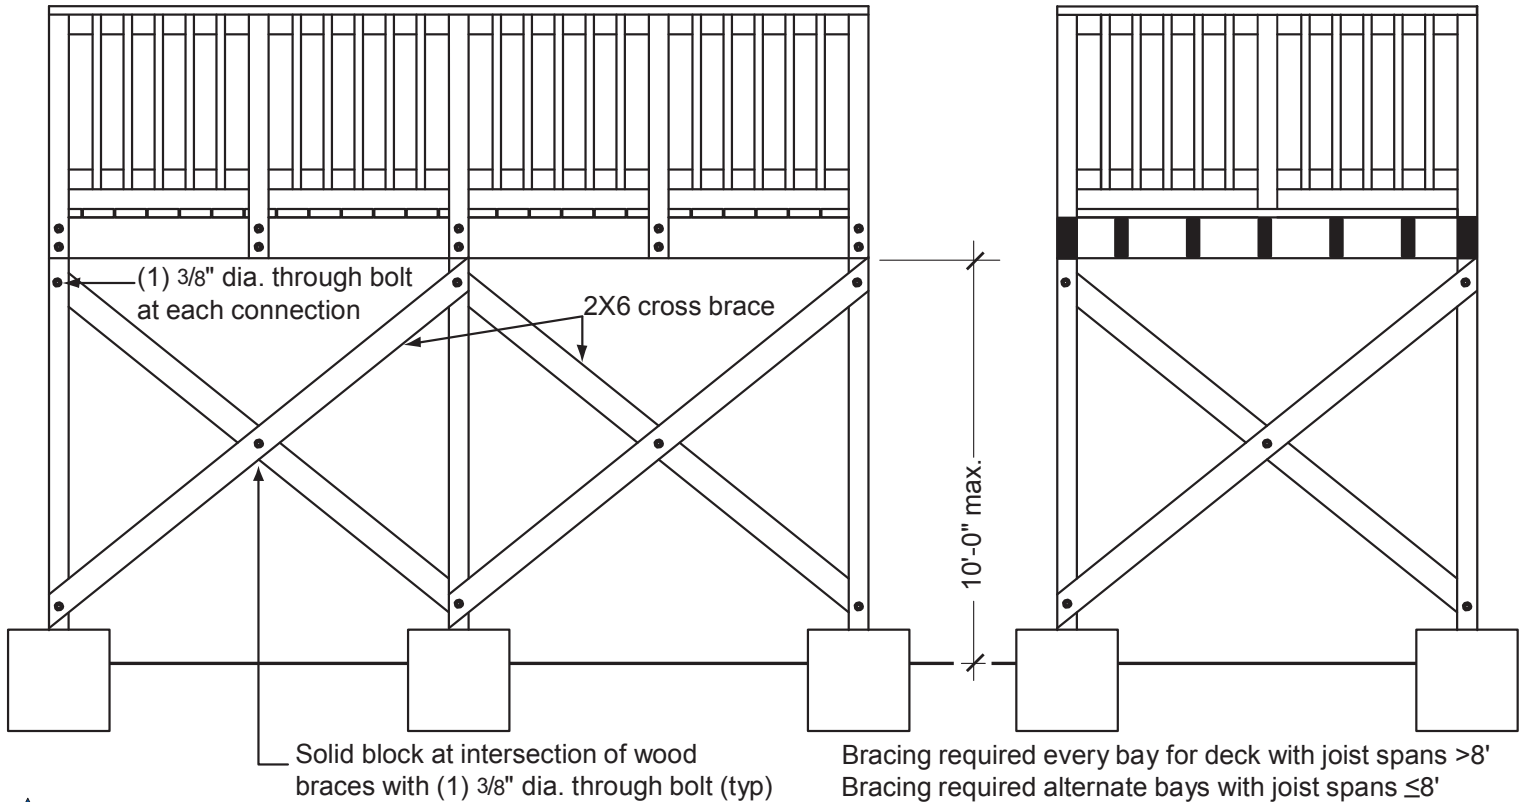

Fig. 15: Diagonal bracing
Decks more than 30 inches above grade must resist lateral forces (wind and earthquake) with diagonal cross bracing as shown in Figure 15. Bracing shall be located between posts parallel to beams and bolted with a 3/8" diameter through-bolt at each end to the posts as shown. Diagonal bracing shall also be located perpendicular to beams. If the deck is free-standing, diagonal bracing must be provided on all the posts and in both directions. Bracing is required in every other bay between posts for decks with joist spans up to 8 feet, and in every bay for decks with joist spans greater than 8 feet.
Post Anchors: Premanufactured post anchors shall be capable of supporting a minimum of 3,000 pounds. Where diagonal bracing is required by Figure 15, the post anchors must be rated for horizontal (seismic) forces.
2. See Figure 15 for diagonal bracing requirements